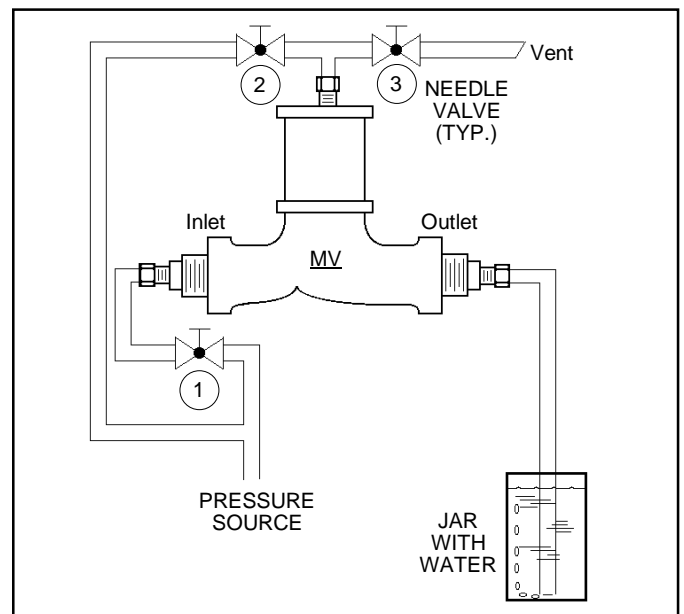

FIGURE 5:
- Separate pilot valve (PV) from main valve (MV). See Section VI, subsection B.
- Install temporary hoses with tight shutoff instrument needle valves at three connections; cylinder head-inlet, vent, and inlet of main valve. See Figure 5.